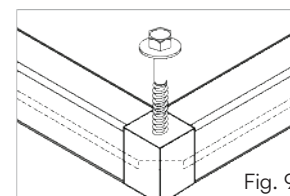

Fig. 9
- Alternatively, drill holes straight through the corners and/or C-channels and attach directly to the support structure using screws 50mm or longer (**Fig. 9, 10**).